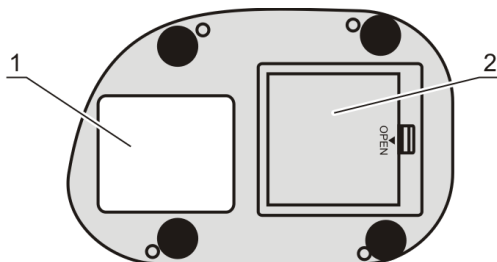

Figure 1. View from below
- (for **DEN-1B**) Battery installation. Pull back the pin on the battery compartment (fig. 1/2) on the underside and open lid. Insert 3xAA batteries as shown on the scheme inside and close the lid.
4.4. **Factory calibration.** The device is pre-calibrated at the factory for operation with the glass tubes 16 mm in external diameter (see the label on the bottom side of the unit, fig. 1/1) at temperature range from +15°C to +25°C and saves calibration data when being switched off.
6.1. The unit is pre-calibrated at the factory for operation with the glass tubes 16 mm in external diameter (see the label on the bottom side of the unit, fig. 1/1) at temperature range from +15°C to +25°C and saves calibration data when being switched off. To use different types of tubes, recalibrate the unit as shown below.